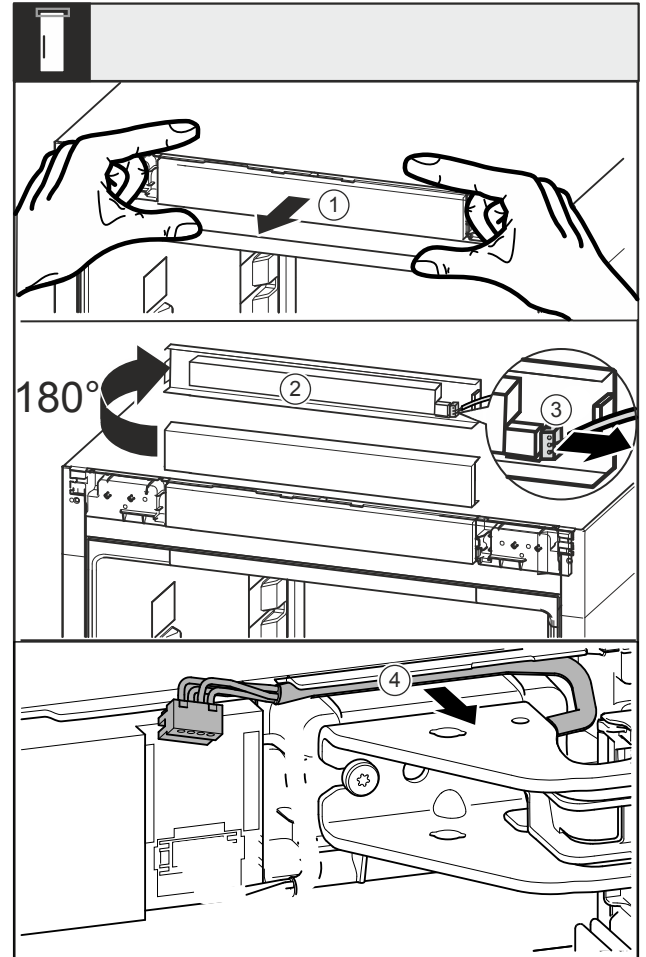

Fig. 12
- ▶ Loosen the faceplate Fig. 12 (1) toward the front.
- ▶ Turn the faceplate Fig. 12 (2) upward by 180°.
- ▶ Press the latching tab on the plug Fig. 12 (3) backwards and carefully pull out the plug.
- ▶ Loosen the cable Fig. 12 (4) above the swap bearing block from the guide.